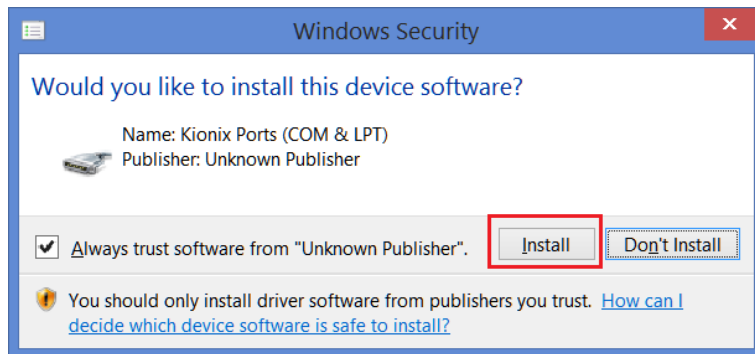

Figure 20. Update Driver Software – 6
9. Windows will prompt you to install the driver, please select "Install" (Figure 20).